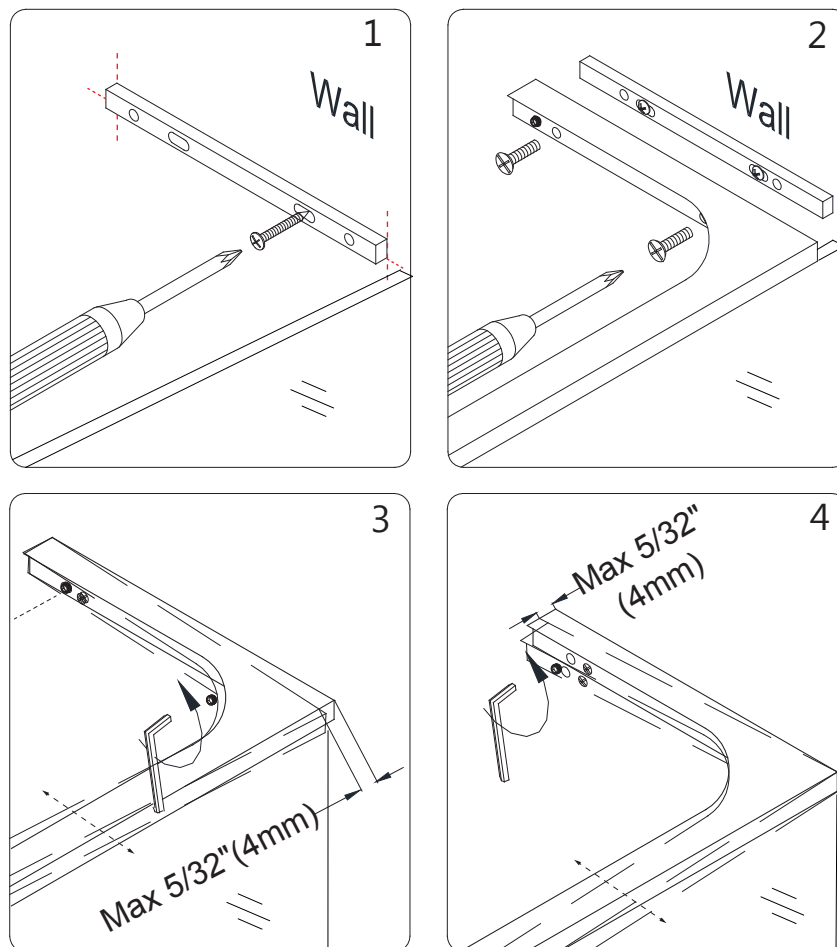

Fig 10
10. Attach the **Wall Plate (#35.6)** to the wall using the **ST4.2 x 40 (#23)** screws. Re-attach the **L-Bracket (#35.3)** to the **Wall Plate (#35.6)** using the **Flat Head Screw M5x14 (#35.8)** and adjust the angle if necessary by using the **Wall Plate Adjustment Set Screws (#35.9)**. (**Fig 10**)